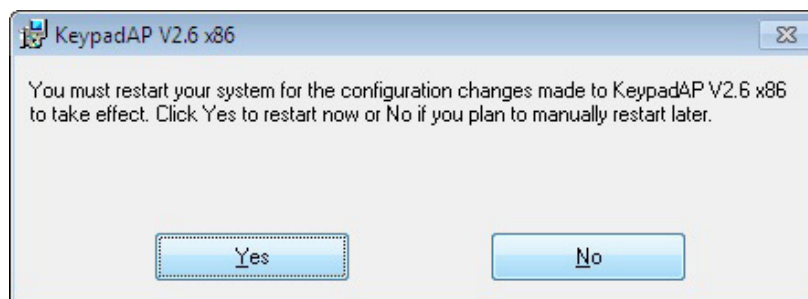

Figure 6-41: Keypad AP Installation Complete
Step 11: The screen in **Figure 6-41** appears. Click **Yes** to restart the system.